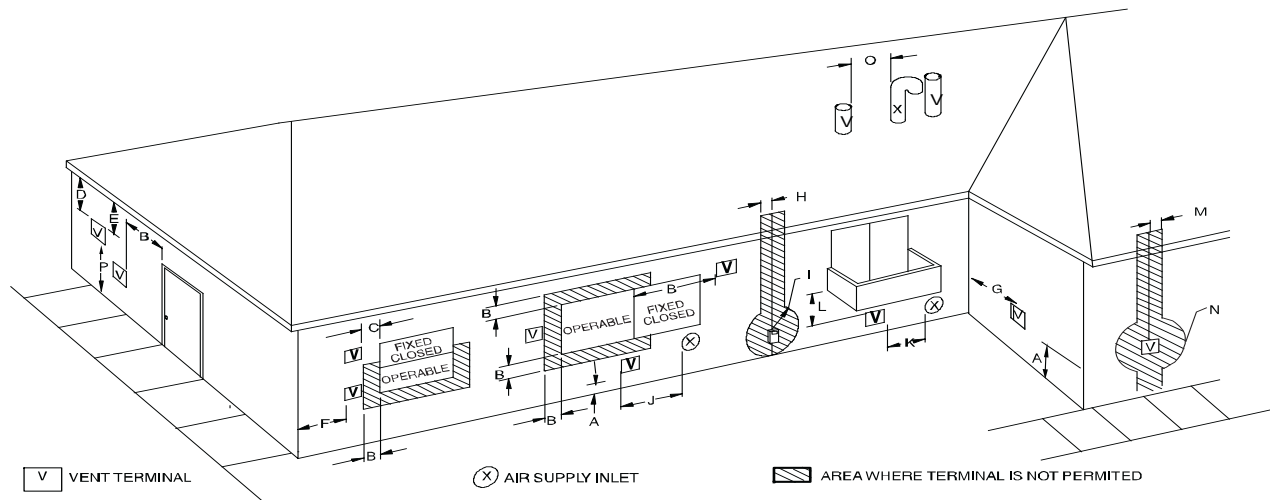

Fig. 43 – Direct Vent Termination Clearance
In a direct-vent (2-pipe) system, all air for combustion is taken directly from outdoor atmosphere, and all flue products are discharged to outdoor atmosphere. Combustion-air and vent pipes must terminate together in the same atmospheric pressure zone, either through the roof (preferred) or a sidewall. See Fig. 43 for references to clearances required by National Code authorities.
For vent termination clearance, references to National codes are shown in Fig. 43 for Direct Vent/2-Pipe system and Fig. 44 for Ventilated Combustion Air/Non-direct Vent/1-Pipe system. For exterior termination arrangements, refer to Fig. 40 for Direct Vent/2-Pipe system and Fig. 41 for Ventilated Combustion Air/Non-Direct/1-Pipe system. Contact Local code authorities for other requirements to and/or exemptions from the National codes shown in the figures.
1. Comply with all clearance requirements stated in Fig. 43 or Fig. 44 per application.
Direct vent (2-pipe) vent and combustion air pipes must terminate outside the structure. See Fig. 43 For references to vent clearances required by National code authorities. Allowable vent and combustion air terminations are shown in Fig. 40.